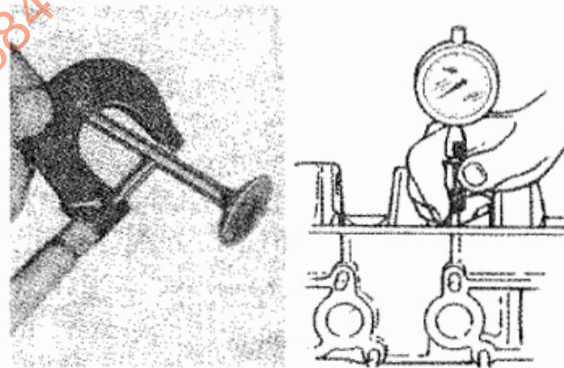
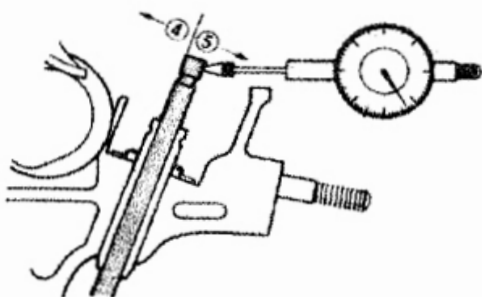

Fig. 3-58
Fig. 3-59
- Using a micrometer and caliper, take diameter readings on valve stems and guides to determine the stem clearance in the guide. Be sure to take a reading at three places along the length of each stem and guide, as shown in Fig. 3-58.
If the caliper like the one shown in Fig. 3-58 is not available, check the end deflection of the valve stem in place with a dial gauge rigged as shown in Fig. 3-59. Move the stem end in the directions ④ ⑤ and determine whether replacement is necessary or not, by referring to these limiting values: